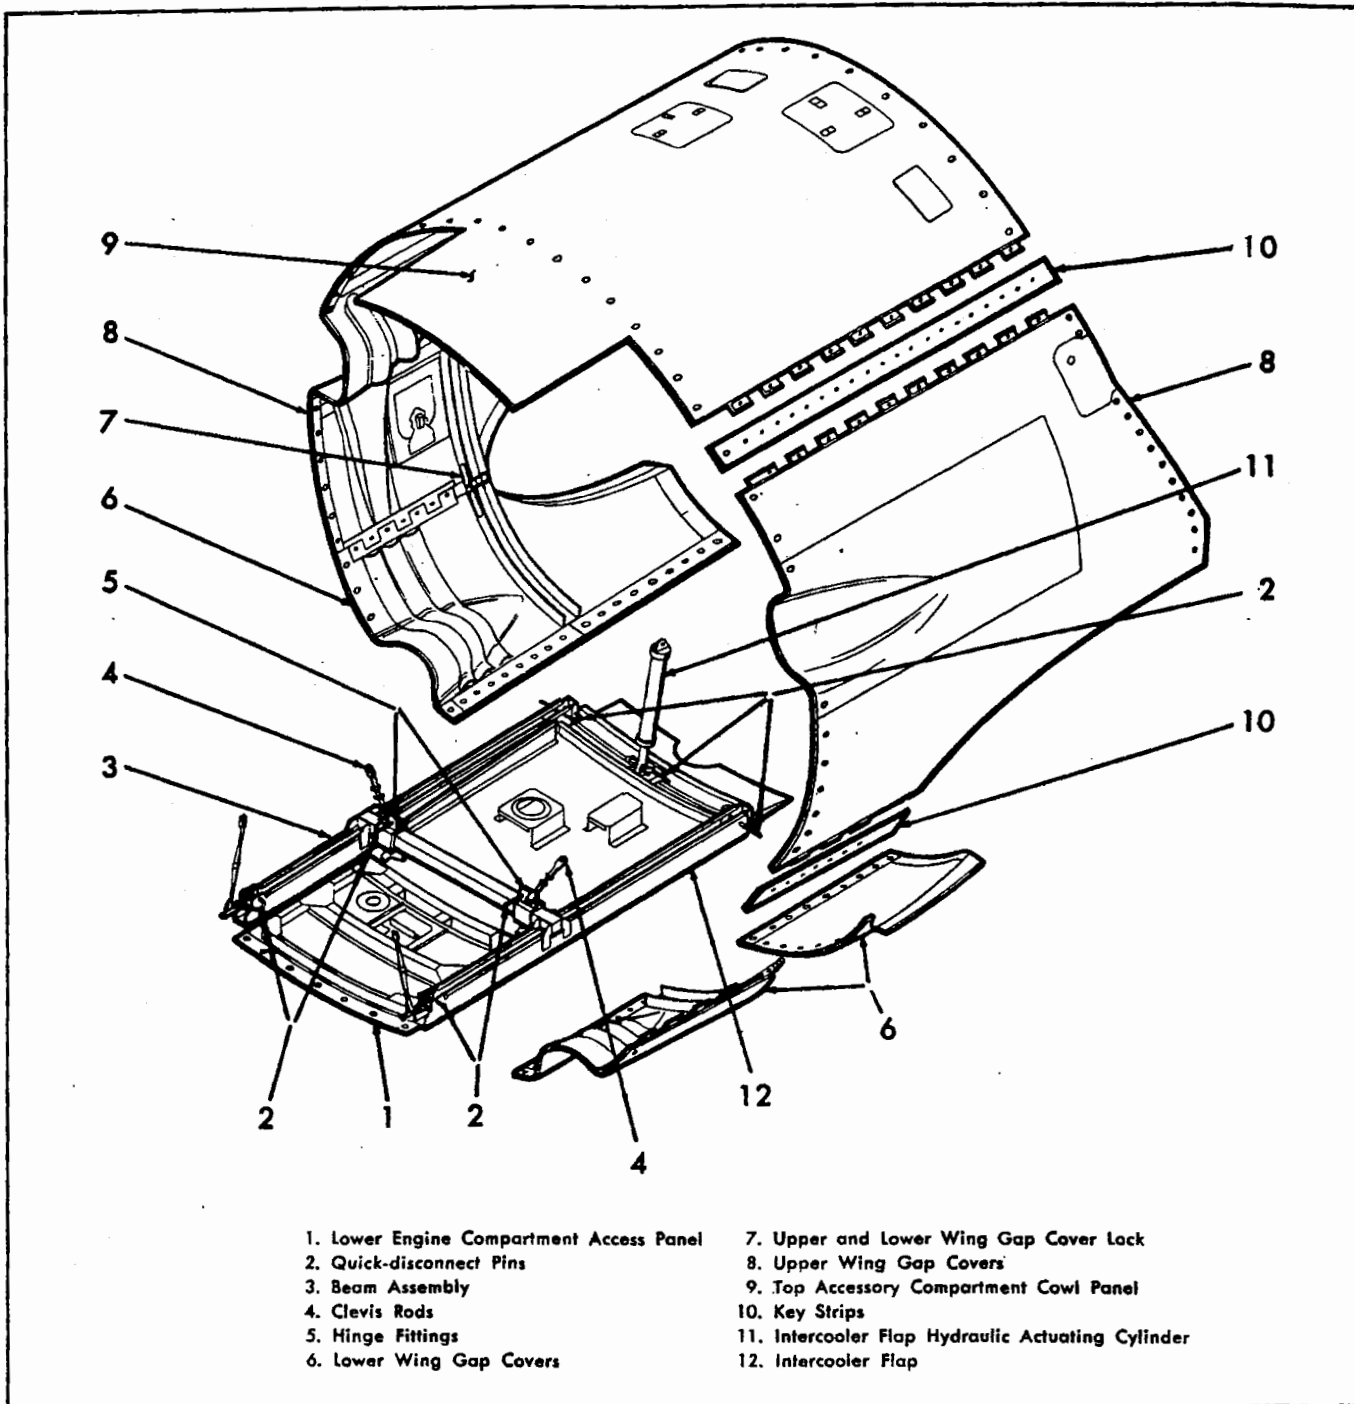

Figure 4-61. Accessory Compartment Panels.
4-476. DESCRIPTION. (See figure 4-61.) The accessory compartment cowling consists of nine panels covering the accessory section of the engine. The top panel (9) extends from the firewall forward to the diaphragm with a portion extending beyond the diaphragm and fitting into the cowl flap support ring. The panels are secured laterally by Camlocs and longitudinally by key strips (10) as are the engine cowl panels. The upper side panels, (or upper wing gap covers) (8) are secured in the same manner as are the two lower wing gap covers (6). The upper and lower wing gap covers are additionally secured to each other on each side by squeezing together two small handles (7) located at the aft ends of the panels at the wing leading edge. With the exception of the key strips (10), Camloc fasteners are used throughout the installation for attachment. The upper wing gap covers contain integral exhaust wells, made of stainless steel extending from power plant stations 90 13/32 to 126 9/32. The two-piece lower wing gap covers are fabricated of stainless steel throughout, and also contain an integral exhaust well.
4-480. REMOVING. (See figure 4-61.)
4-484. DESCRIPTION. (See figure 4-61.) The intercooler flap is the rectangular movable flap (fabricated of Metalite), located beneath the accessory section compartment, hinged at two points on the forward end, and secured at its aft end, to a hydraulic cylinder. Refer to paragraphs 4-1886 through 4-1896 for Metalite information. All three points of attachments are secured by quick-disconnects.